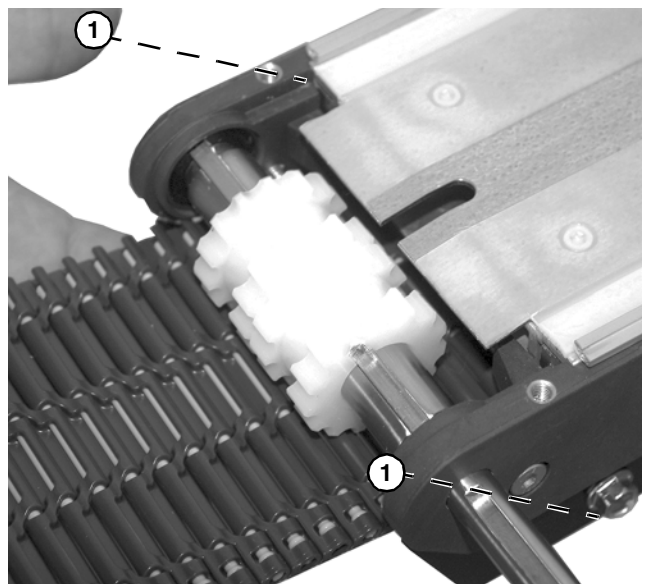

Figure 27
5. Remove belt by pulling belt out of bottom wear strips (Figure 27, item 1).